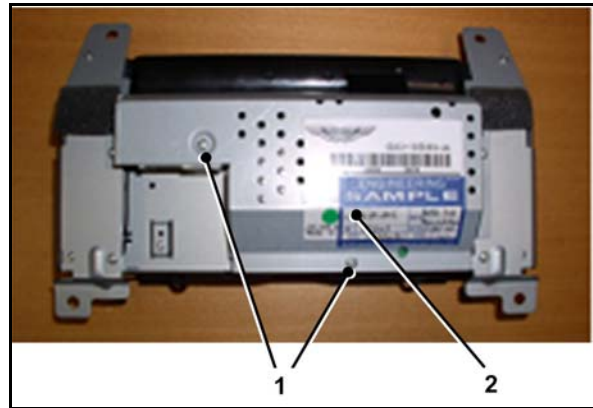

Figure 27
35. Put the bottom cover (2) back into position and install the two M3 screws (1) (see Figure 27).